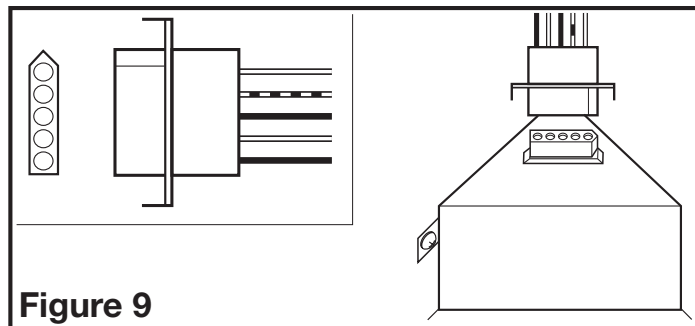

Figure 9
3. Plug the fan's quick connect motor cord into the receptacle. This cord will only fit one way into the receptacle (**Figure 9**).